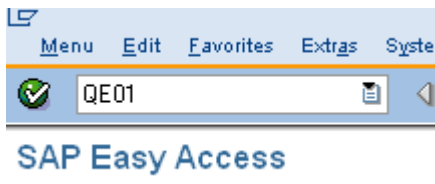

Fig. 7
- 7.2. Enter T code qe01 or select from favorites in the text box at the top of the screen (Fig. 7)